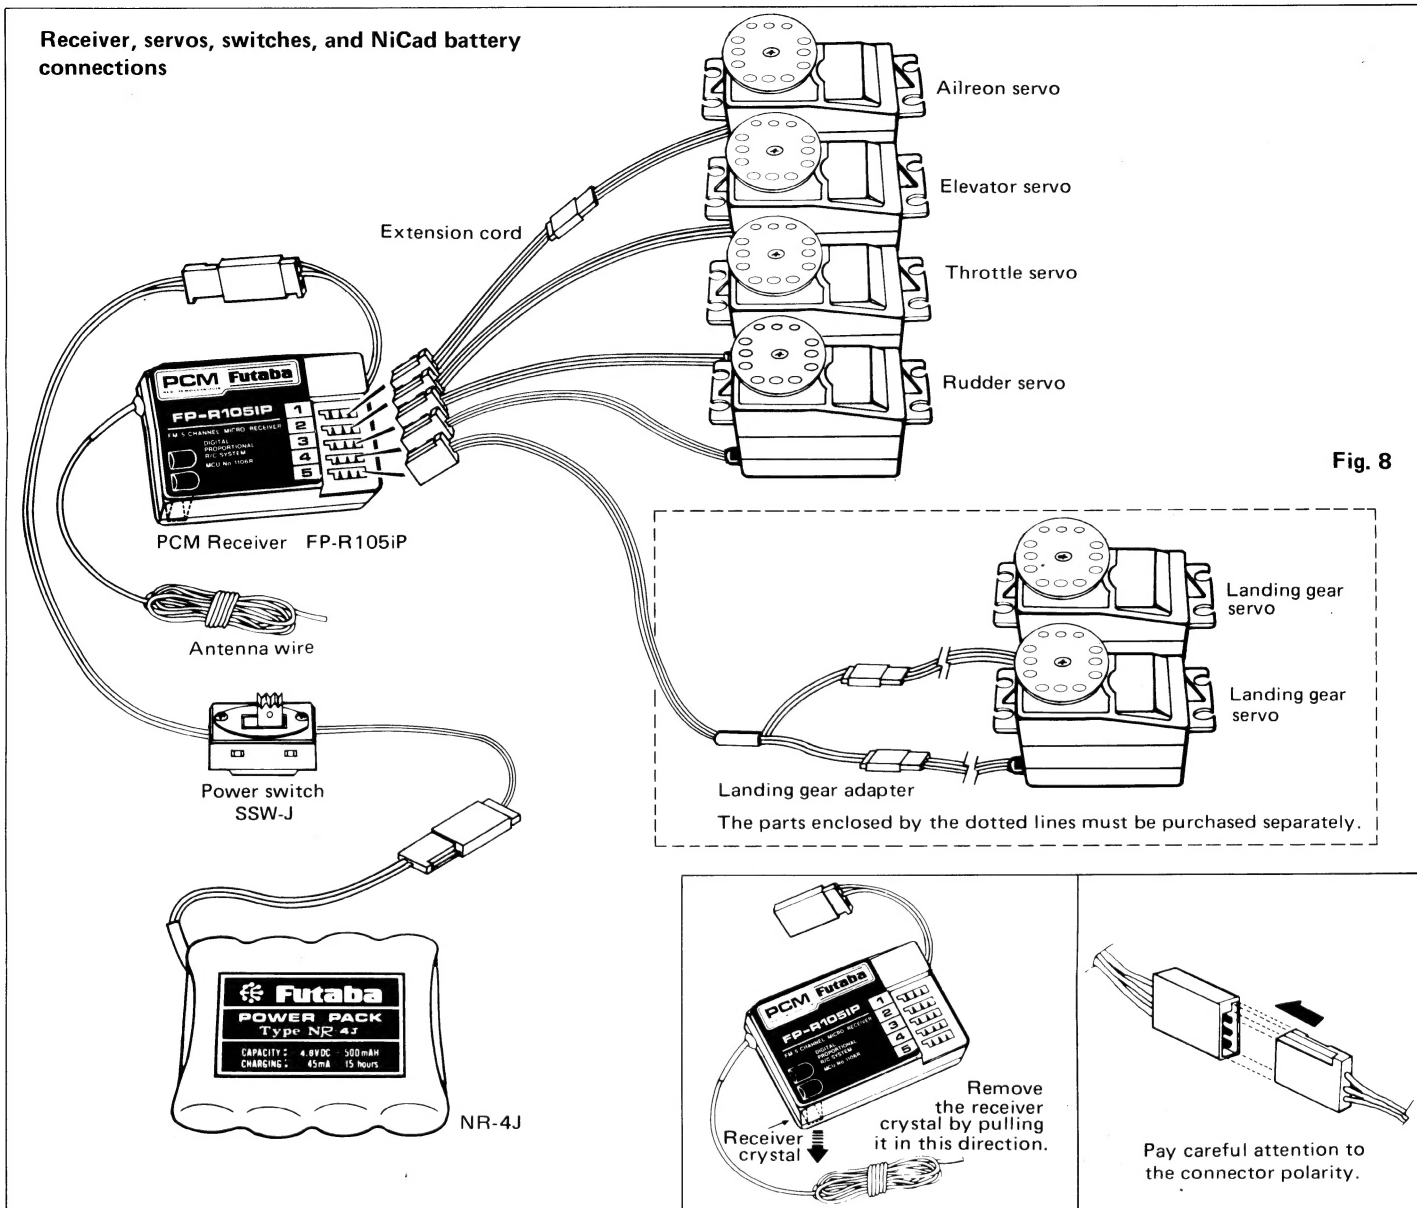

Fig. 8
- Connect the receiver, servos, switches, and battery firmly as shown in Fig. 8. Then extend the transmitter and receiver antennas fully.